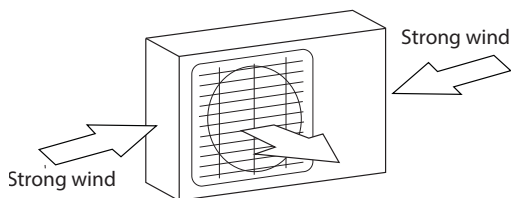

Fig. 5.1
- ☑ If the location is exposed to strong winds (for example: near a seaside), the unit must be placed against the wall to shelter it from the wind. If necessary, use a windbreak (or similar). (See Fig. 5.1 & 5.2)